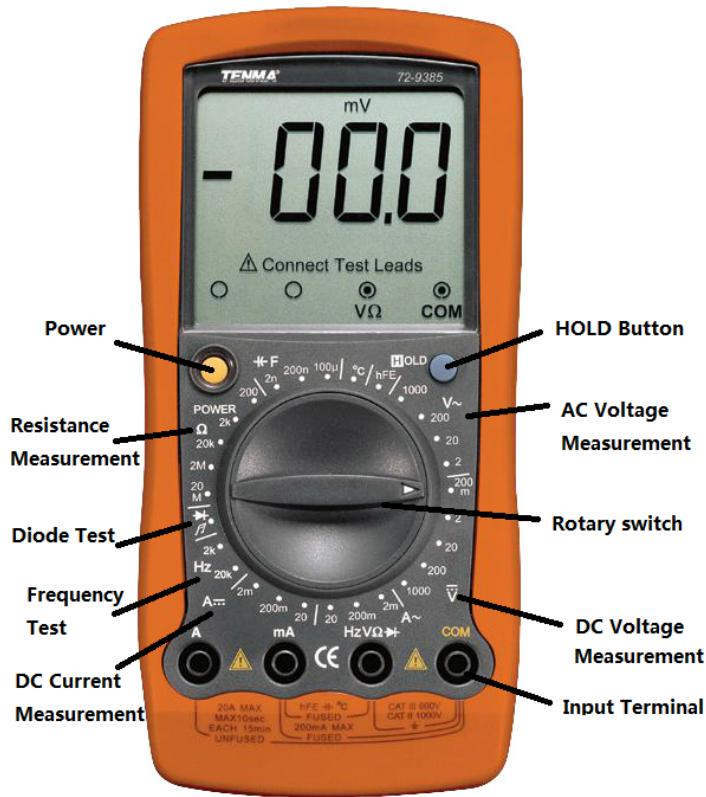

Figure 1.7: The Interface of the Multimeter.
The Multimeter is a useful instrument to measure the basic electrical properties and troubleshoot circuit problems. Figure 1.7 shows an overall display of our Multimeter.
- Set the rotary switch to an appropriate measurement position in Ω , i.e. in the sector marked “Resistance Measurement” in Fig. 1.7.
- Set the mode of the Multimeter to DC voltage mode by turning the rotary switch to “DC Voltage Measurement” in Fig. 1.7. The DC Voltage ranges are $200mV$, $2V$, $20V$, $200V$ and $1000V$. If the value of voltage to be measured is unknown, use the maximum measurement position ($1000V$) and reduce the range step by step until a satisfactory reading is obtained.
Task 1.5 Use your multimeter to find out which pins are connected to each other: turn the dial of the multimeter to the “Continuity Test” mode which has the icons of a diode and a musical note (marked as **Diode Test** in Fig. 1.7). Refer to page 20 of the TENMA Model 72-9385 Operating Manual). Now connect the two leads of the multimeter to the two pins of the button which you want to test for continuity - if they are shorted, you will hear a loud beep.